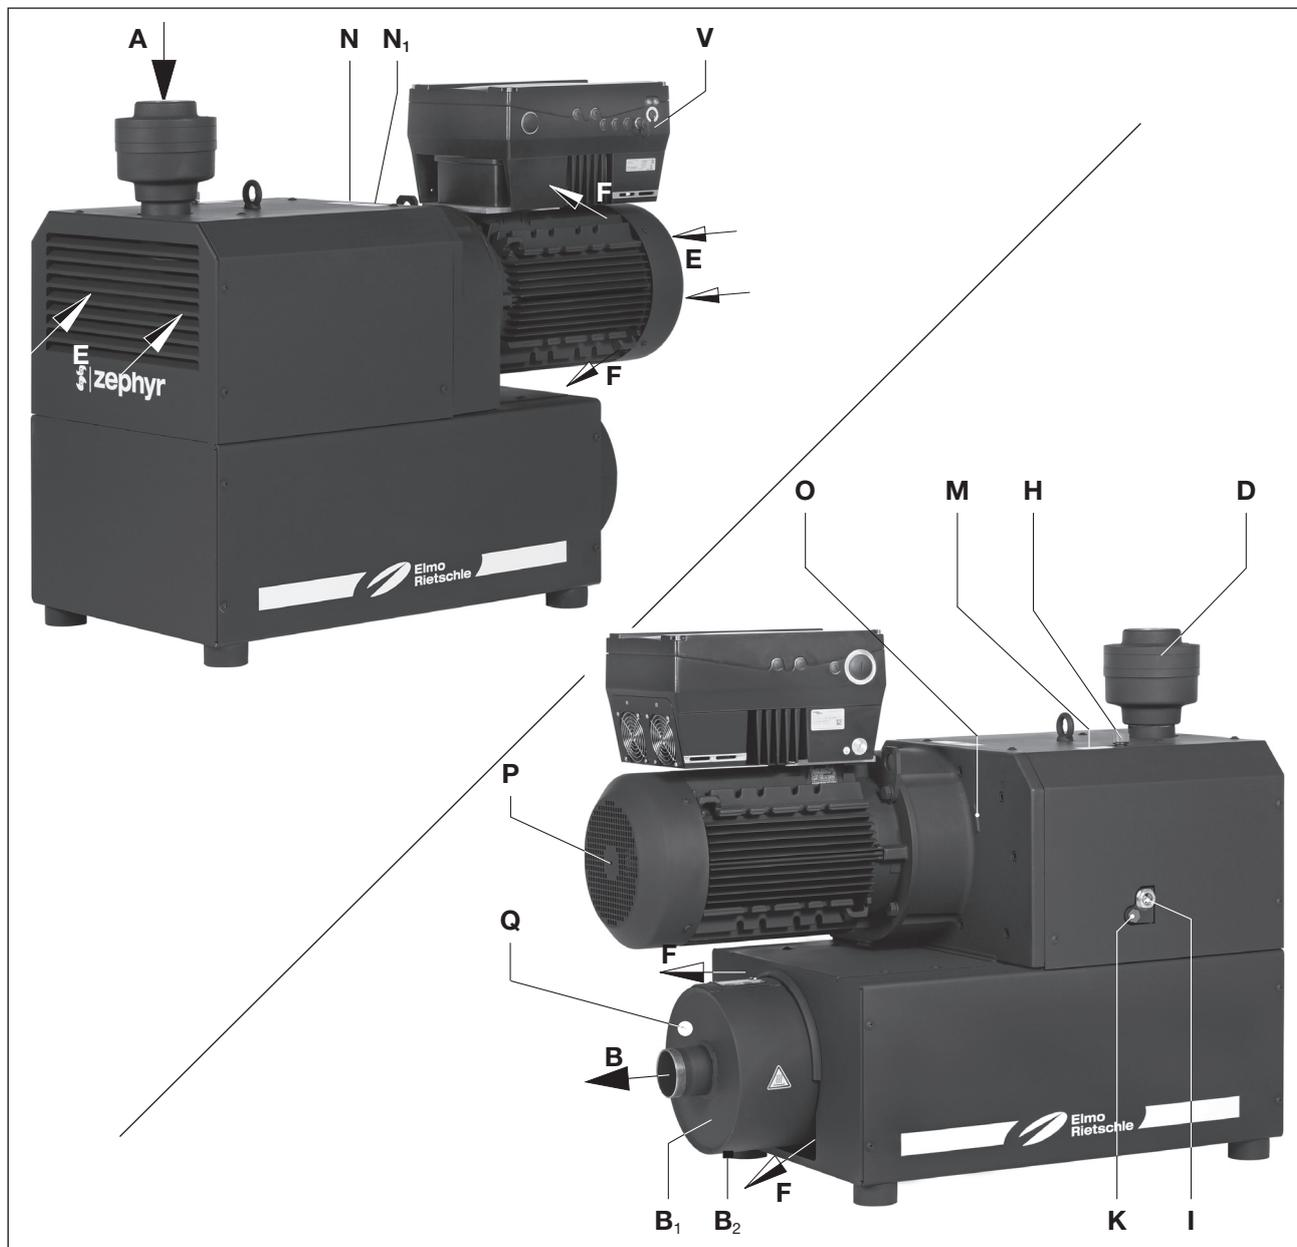

Fig. 2 Vacuum pump C-VLR 401 and C-VLR 501
- the machine must only be operated at speed and frequency range according to the data plate (Fig. 2/N1)
The C-VLR 401 and C-VLR 501 model has a connection flange on the inlet side and an exhaust silencer on the pressure side (Fig. 2/B1). The air sucked in is cleaned by a micro-filter. A non-return valve (Fig. 2/D) prevents the evacuated system from being ventilated after the pump has stopped.
The gearbox and the compression chamber are separated from each other by special seals. The gearbox is sealed from the outside with shaft seals and O rings, the compressor chamber with piston rings. The VLR 401 and VLR 501 are enclosed in an insulating hood. In order to dissipate compression heat, the cooling air is sucked through between the machine and the hood using a drum fan that sucks in the fresh cooling air (Fig. 2/E) and discharges the heated air out of the cooling air outlet (Fig. 2/F).
Three-phase motor with integral frequency converter (Fig. 2/V) makes possible infinitely variable control of the speed.
The oil filling point (Fig. 2/H), oil sight glass (Fig. 2/I) and the oil outlets (Fig. 2/K) must be easily accessible. The cooling air inlets (Fig. 2/E) and the cooling air outlets (Fig. 2/F) must be at least 30 cm away from adjacent walls. Cooling air coming out must not be sucked in again.
- a) Vacuum connection at (Fig. 2/A).
- c) The extracted air can be discharged through the exhaust silencer (Fig. 2/B) or conducted away via a pipe.
- a) Fill the lubricating oil (for suitable types see "Maintenance") for the gear wheels and oil filling point (Fig. 2/H) up to the middle of the sight glasses (Fig. 2/I).
When the machine is at operating temperature the surface temperatures on the components (Fig. 2/ Q) may go above 70°C.
- ▷ The intended direction of rotation of the drive shaft is shown by the rotary direction arrow (Fig. 2/O).